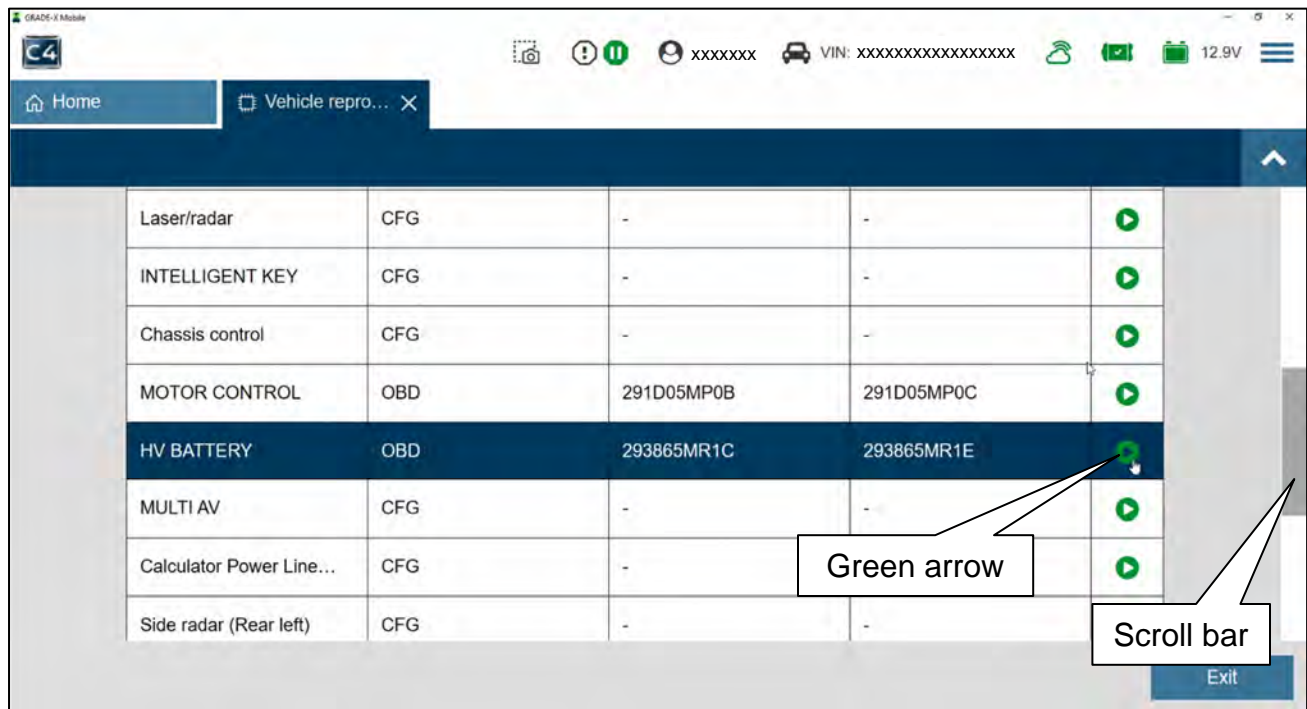

Figure 2
16. Scroll down until you see **HV BATTERY** listed (Figure 2).
17. Select the green arrow to the right of **HV BATTERY**, where shown in Figure 2.